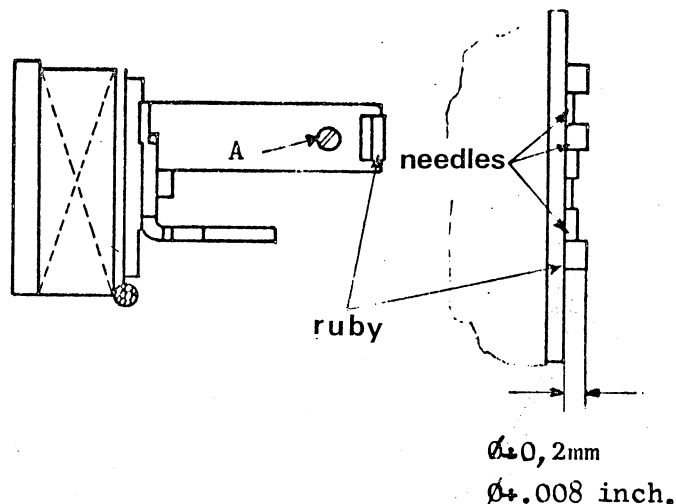

Fig. 8-16
- . Lay the head on a work table and after loosening screw A (fig. 8.16) move backward the ruby till when the shortest needle is aligned with the ruby.